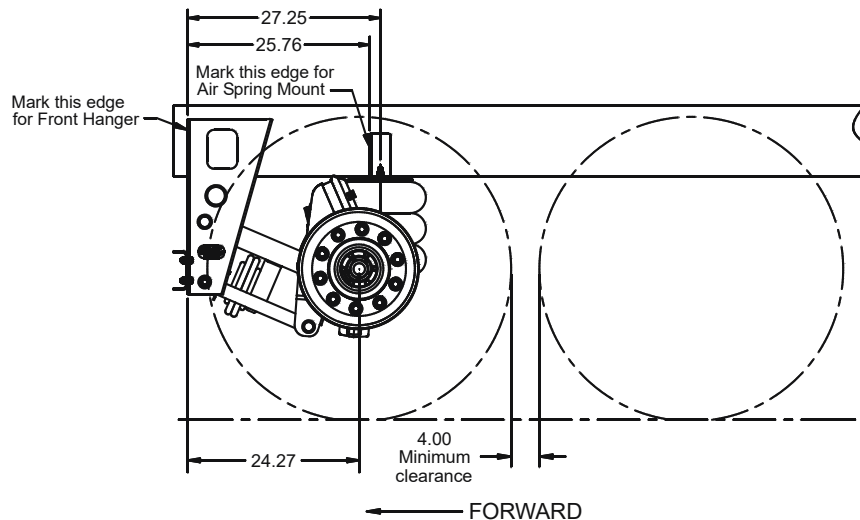
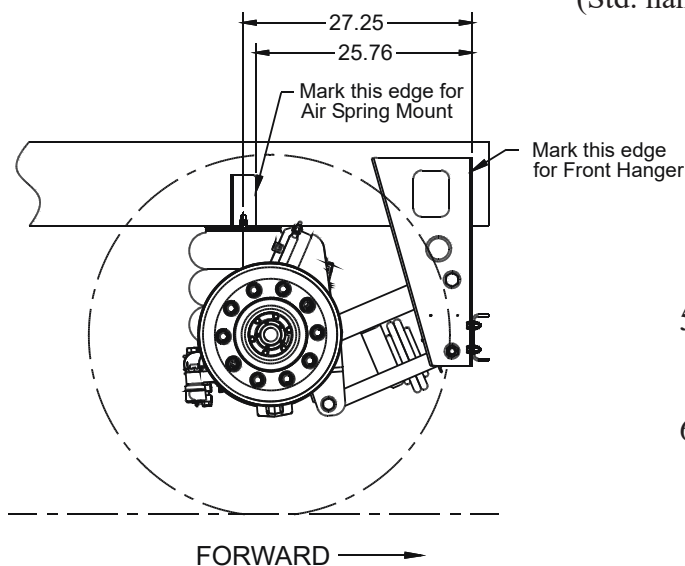
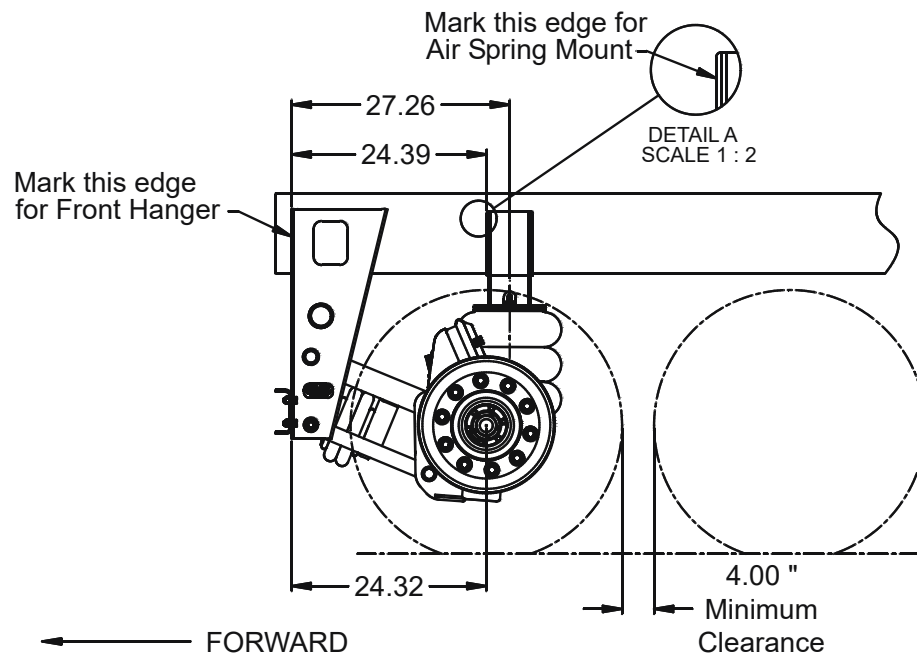

Figure 7a
Figure 7b
Figure 7c
4. Determine the desired location of the auxiliary axle and mark frame on the outside surface at the front edge of the front hanger as shown in Figure 7a. Repeat for opposite side as shown in Figure 7b. For ALAP13PSH see Figure 7c.